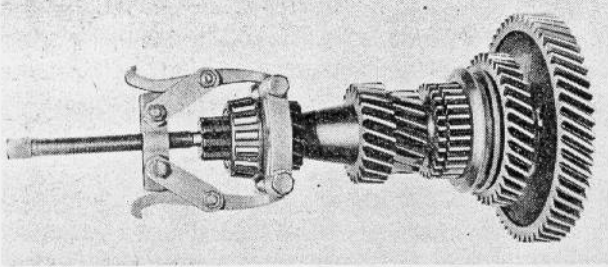

Fig. 10
- b. Remove the rear roller bearing (B-Figure 9), as shown in Figure 10.